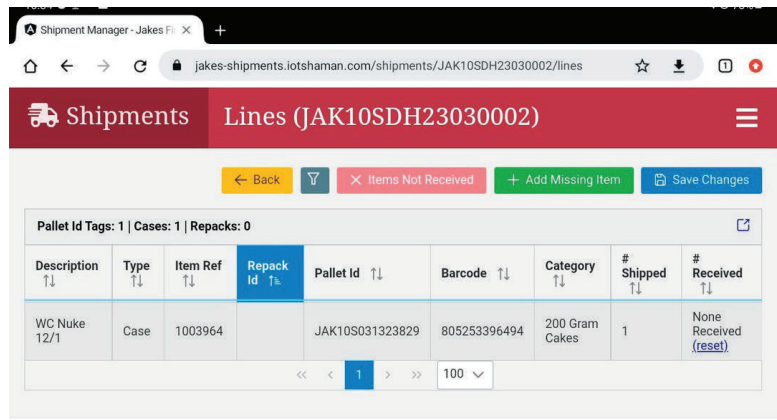

Figure 13
- i. Once this change is saved, NONE RECEIVED will appear as # Received and will not be highlighted in any color (Figure 13).